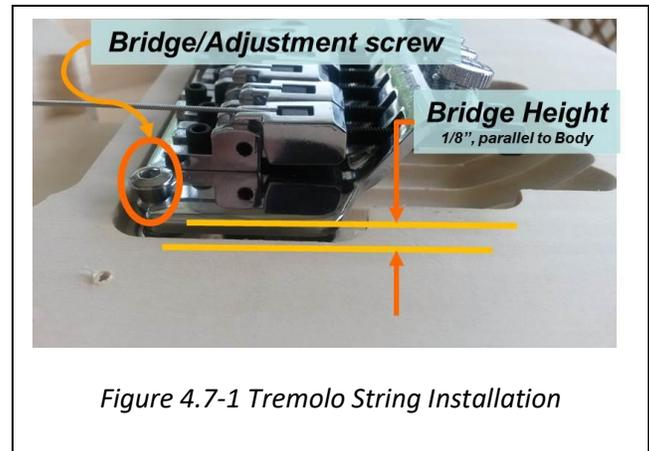

Figure 4.7-1 Tremolo String Installation
Several suppliers are used, possibly resulting in different wire colors. Identification of colors and cross referencing their function to the colors in the instructions (Figure 4.7.1-1) will assist in the assembly. Using Table 4.7.1, cross reference supplied wire color codes with colors used in these instructions:
2. While holding the bridge assembly by the string locking bolts, use the 3mm Allen wrench to adjust the initial height of the bridge base so that it is approximately 1/8” above the Body. Ensure that the base notches are in the collared head of the adjustment screw (Fig. 4.7-1);
3. Carefully uncoil each of the strings (6), ensuring that the stings do not have a kink;